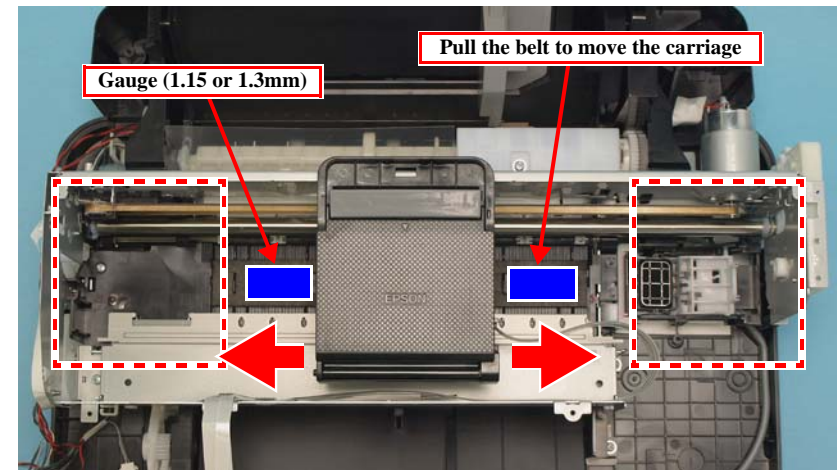

Figure 5-9. PG Adjustment (1)
4. Move the carriage to the center of the platen, and place 1.15 mm thickness gauge on the left aligning its left edge with the second rib of the Front Paper Guide. And place another 1.15 mm thickness gauge on the right aligning its right edge with the rightmost rib of the Front Paper Guide. (See Figure 5-9.)